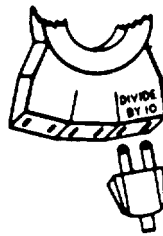

Figure 3
2. Install the adapter on the top of the attachment lead Rotate the lever back against the adapter (See Figure 3).
3. Plug test lead bar into attachment lead (See Figure 3).
- (1) Plug line cord of appliance or apparatus to be measured into the "DIVIDE BY 10" outlet of Model 101, (Fig 3).